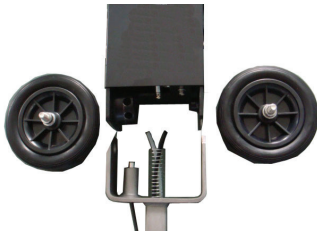

Fig. 03
- Insert the complete handle into the opening of the lever support, Fig. 03.